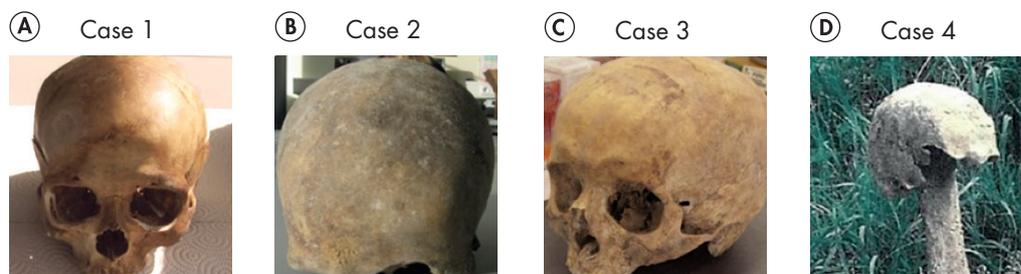

Figure 1. Overview of skull specimens.
The sample set consisted of temporal bones from four skulls that were analyzed during missing-persons cases from 2011 to 2016 (Table 1, Figure 1). The petrous part of the temporal bones was isolated and decontaminated with commercial bleach (10%), water and ethanol (96%). Bones were ground in contamination-free disposable grinding chambers with a batch mill at 25,000 rounds per minute (rpm). 300 mg of ground bone powder was used for total demineralization with EDTA, proteinase K (PK), dithiothreitol (DTT) and Buffer ATL. After 20 h of incubation, the samples were concentrated on Microcon[®] DNA Fast Flow Centrifugal Filter Units. The lysate was collected and used for automated extraction.